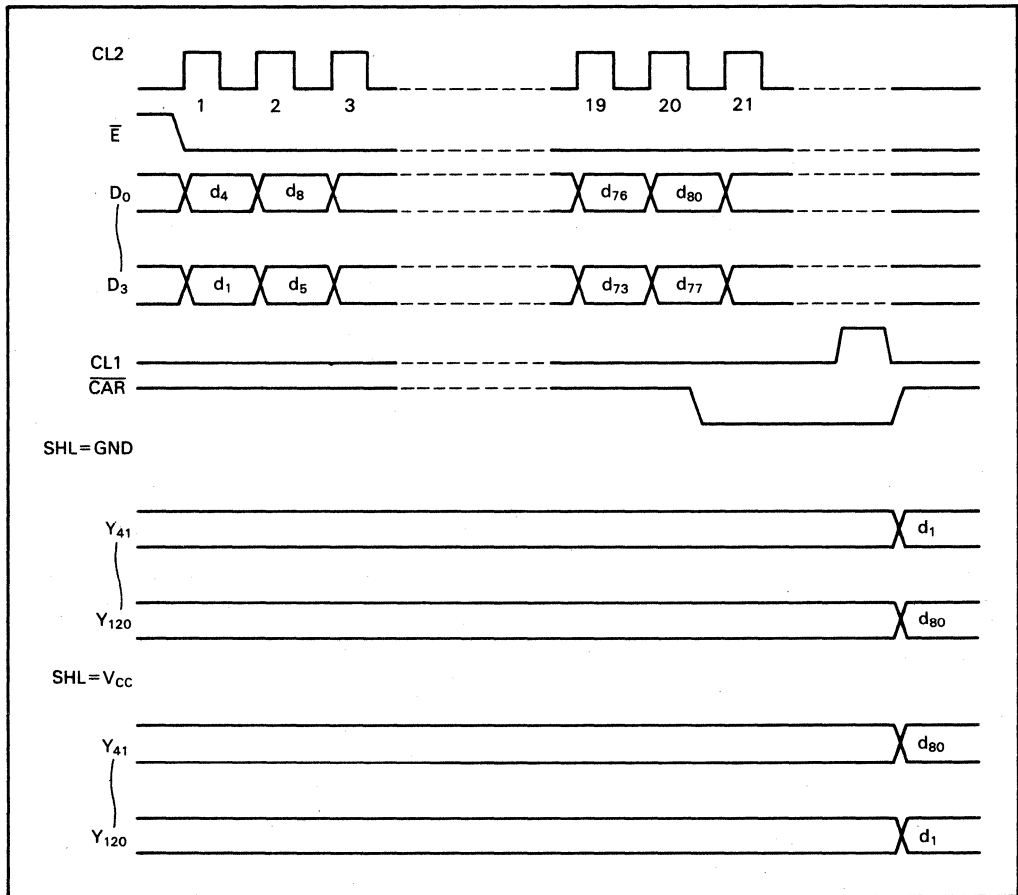

Figure 7 Column Driver Timing Chart (4)
When CH2 = V_{CC} and BS = GND, 4-bit parallel data is latched, while 80-bit data is output. The output of latched data is performed in described in "Column Driving (3)". See figure 7.